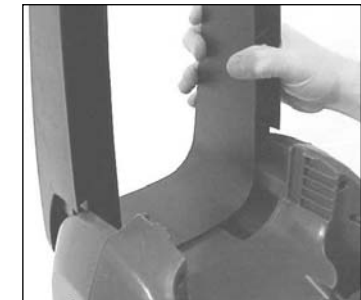

Figure 1
1. Assemble handle by sliding handle into unit and secure using four enclosed screws as shown in Figures 1 and 2.